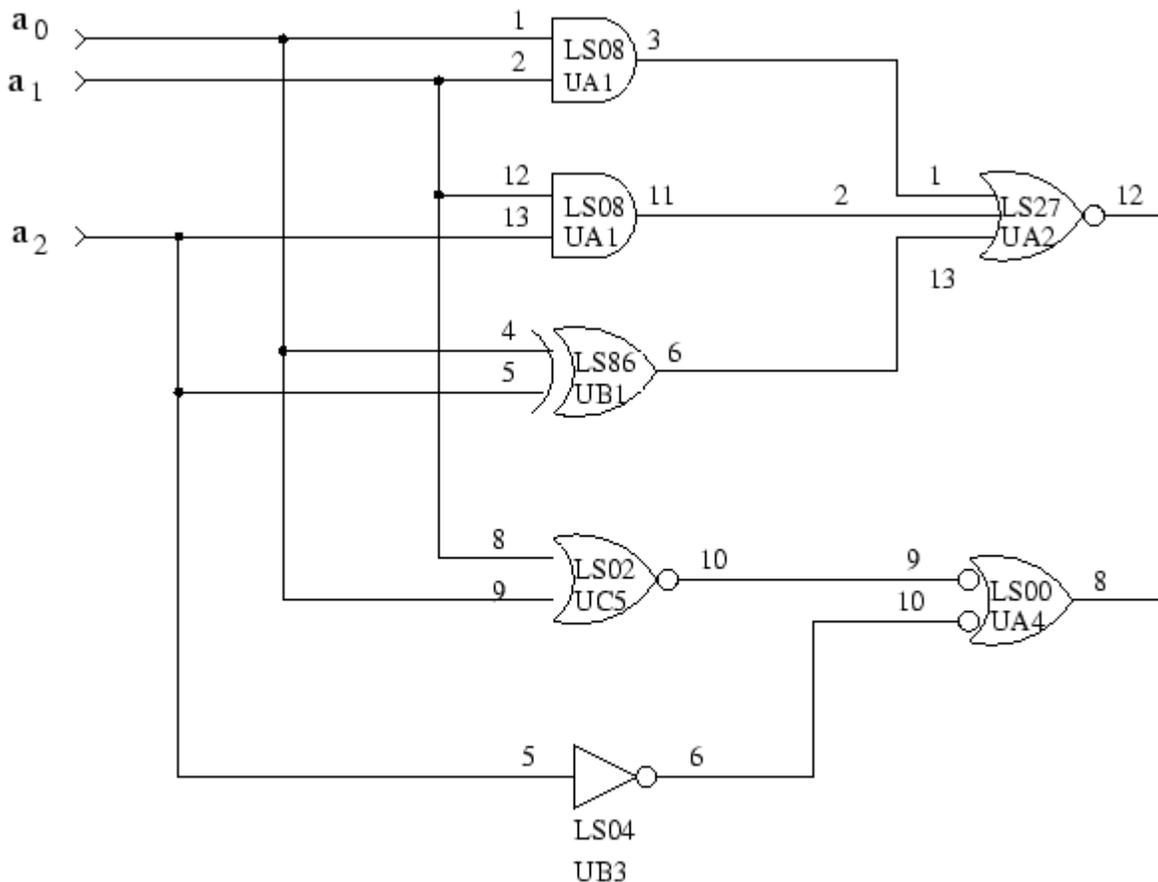

Figure 1: Logic Diagram Fragment
5. Label all input and output signals to a circuit. One starting point for each is best, splitting the signal as required for multiple inputs. In dense diagrams, this may not be possible. In that case, label all instances of a signal. A logic diagram fragment is shown in Figure 1.